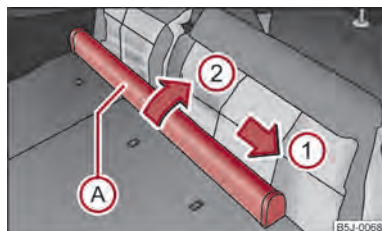

Fig. 55 Rear seats: Luggage net partition housing
- Push the rear bulkhead **A** ⇒ fig. 55 in the direction of arrow **1** and take it out of the mounts of the rear seat backrests on the right in the direction of arrow **2**.